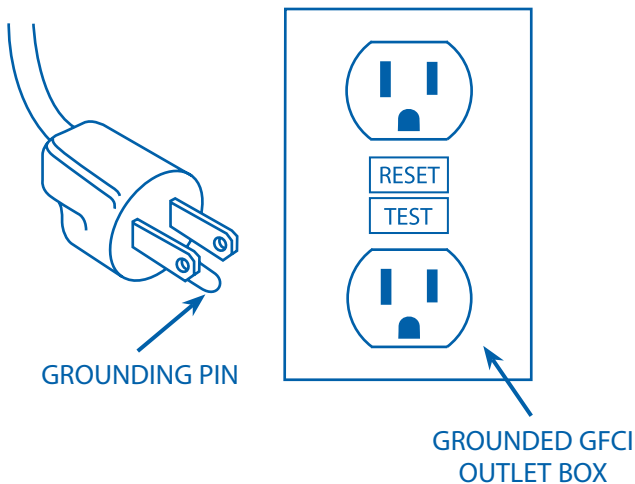

Figure 2
This machine is intended for use on a circuit that has an outlet like the one shown in Figure 2. It also has a grounding pin like the one shown.
4. Connect a 3-wire extension cord (3-prong) into a grounded (3-prong) 110 volt AC outlet (Figure 2).